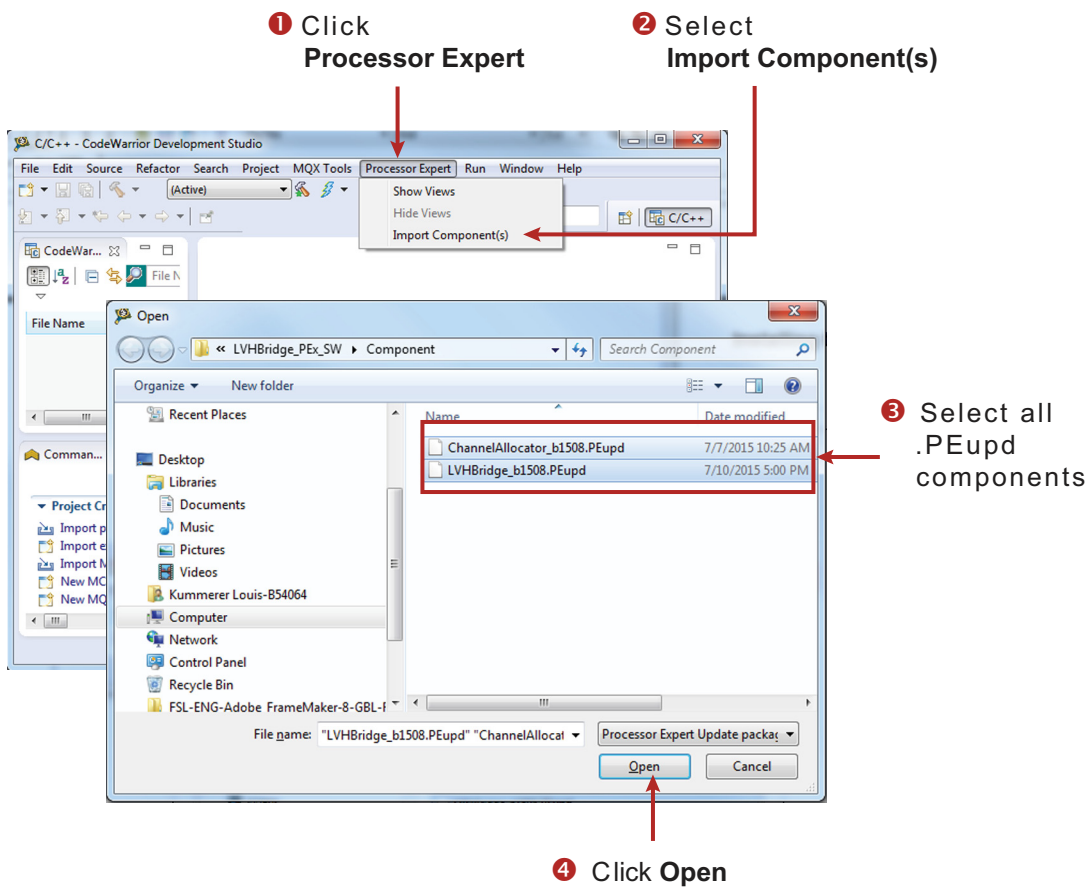

Figure 6. Import LVHBridge Component
2. In the pop-up window, locate the component file (.PEupd) in the example project folder LVHBridge_PEx_SW\Component. Select **LVHBridge_b1508.PEupd** and **ChannelAllocator_b1508.PEupd** files then click **Open** (see Figure 6).